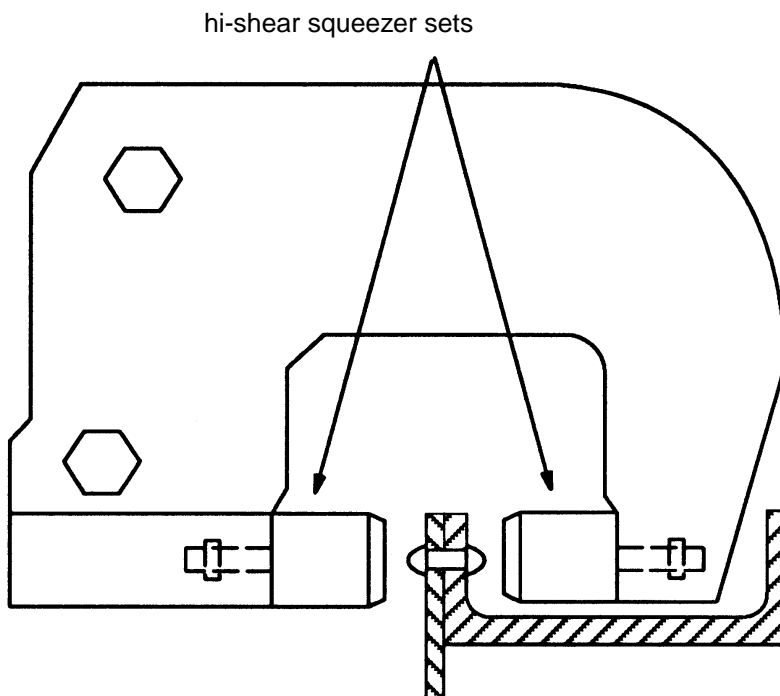

Figure 16 - Squeeze Riveting Method for Dowel Pins
5.6.5 Swage collars onto dowel pins using the squeeze riveting method for dowel pins as follows (see Figure 16):